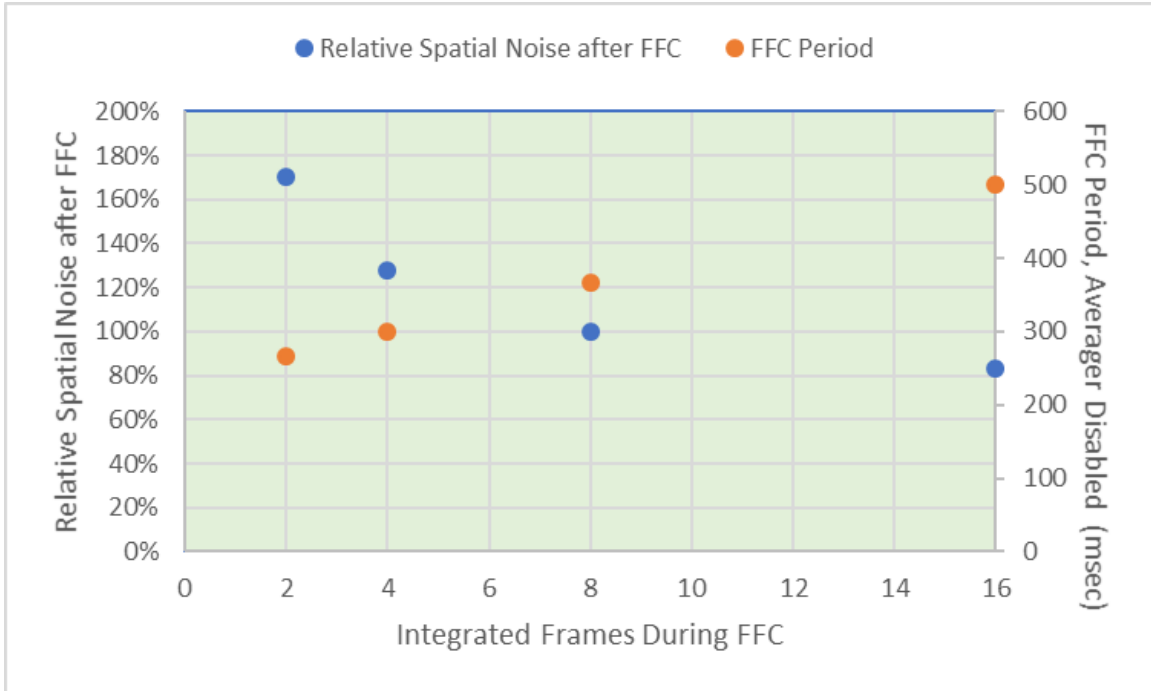

Figure 15: Relative Spatial Noise after FFC vs. Number of Integrated Frames (factory-default = 8)
- **FFC Integration Period:** During each FFC event, the camera automatically integrates n frames of sensor data to generate the resulting correction term. **FFC Integration Period** specifies the value of n , either 2, 4, 8 or 16. Utilizing fewer frames obviously decreases the FFC period (with diminishing returns due to overhead) whereas utilizing more frames provides greater reduction of spatial noise (also with diminishing returns due to $1/f$ noise). Figure 15 quantifies the benefit. The factory-default value is 8 frames for cameras which include a shutter, 16 frames for shutterless. Note that with averager enabled (i.e., 30Hz output rather than 60Hz output), a value of n frames represents twice as much time as with averager disabled since frame period is twice as long.